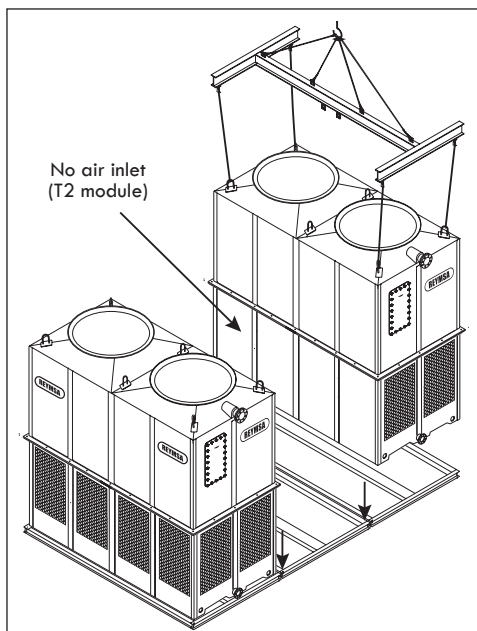
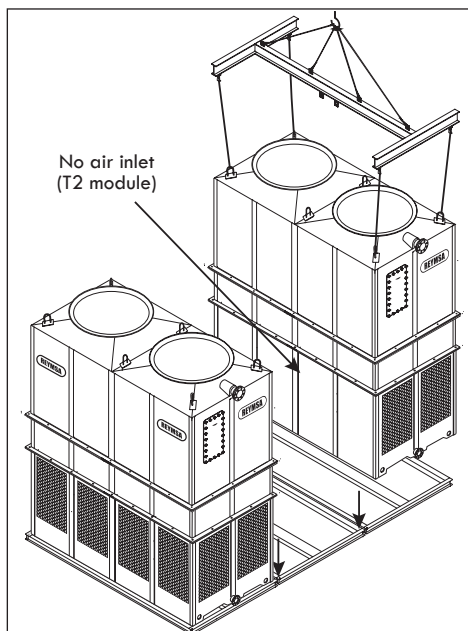

Figure A-61: T2 module lifting and installation (RTM-B-L)
Figure A-62: T2 module lifting and installation (RTM-D-L)
- B. Repeat the previous steps to install the remaining modules. Pay attention to the correct module arrangement; Each module is labeled alphabetically (module 1: A; module 2: B, etc.) for a proper installation (see Figure A-61 and Figure A-62).